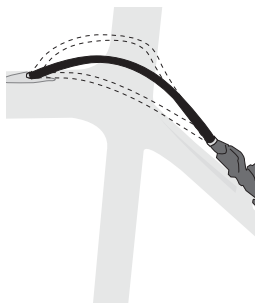

Figure 5. Correct (and incorrect) rear housing length
2. Cut the rear housing to length (Figure 5).